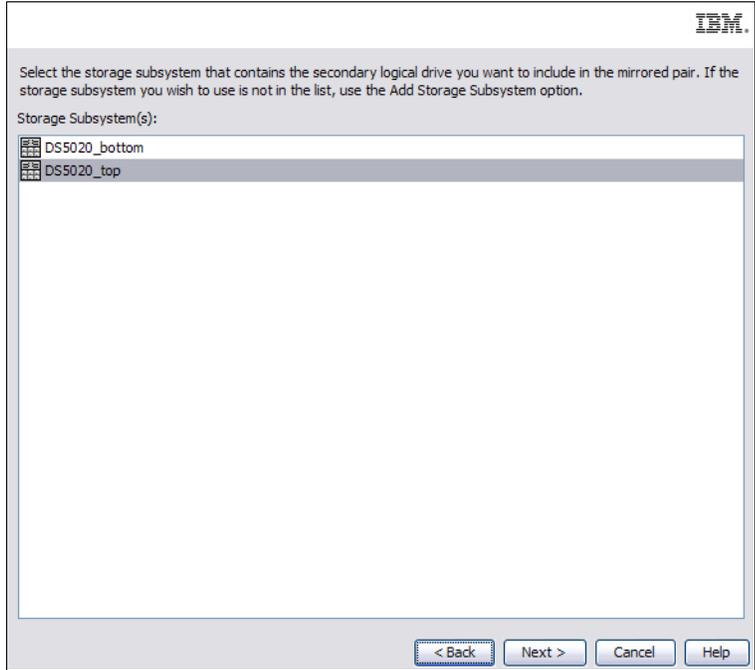

Figure 5-17 Select Storage Subsystem (Create Remote Mirror)
2. Read the information displayed in the window and click **Next**. The Select Storage Subsystem window (Figure 5-17) opens.